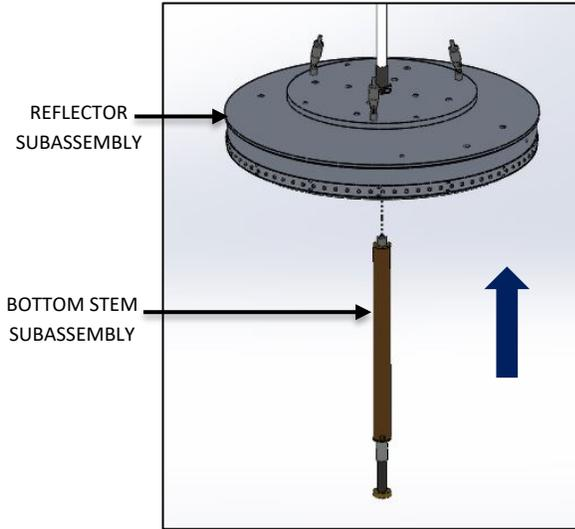
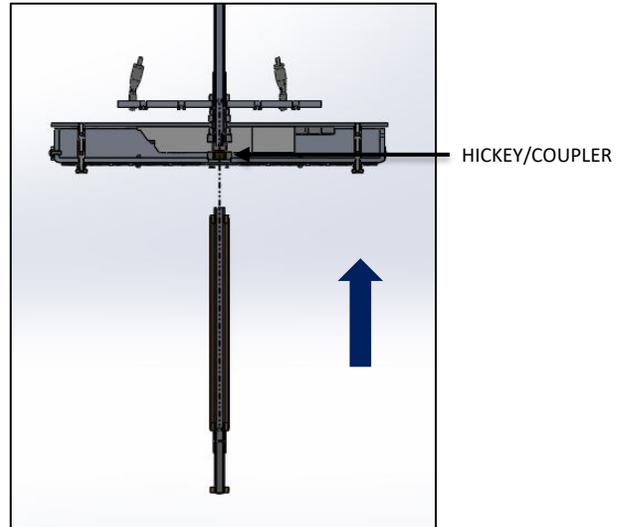

FIG. 12 – BOTTOM STEM INSTALLATION
FIG. 13 – SECTION VIEW SHOWING BOTTOM STEM INSTALLATION
1. Attach **BOTTOM STEM** to **REFLECTOR SUBASSEMBLY** as shown in FIG.12. To the **HICKEY/COUPLER** which is preassembled inside of **REFLECTOR SUBASSEMBLY** as shown in FIG. 13.